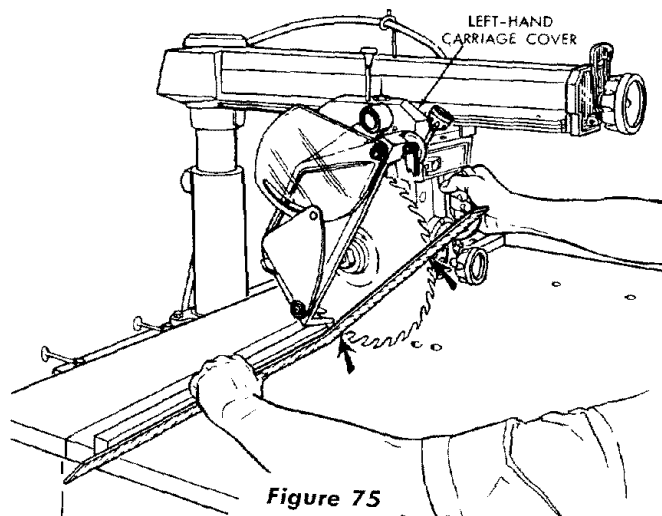

Figure 75
(1) Loosen the guard clamp knob and tilt the guard upward at the front to expose the saw blade, as shown in figure 75.
(2) Place a square against the rip fence and the saw blade as shown in figure 75. The long leg of the square must be held firmly against the rip fence and table top and the short leg must not touch any of the teeth on the saw blade.
(3) If the square does not touch the hollow-ground blade at points shown in figure 75, a heel condition exists (either to the left or right). To correct the condition, proceed as follows:
(a) Remove the left-hand carriage cover (figure 75).